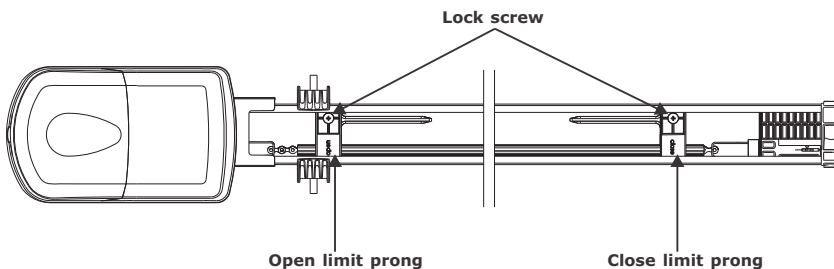

Figure 13. Engaging / Disengaging
- Locate the Close Direction Limit Prong within the Drive Rail - nearest to front wall of garage (Figure.13)
- Locate the Open Direction Limit Prong within the Drive Rail – nearest to Control Box. (Figure.13)